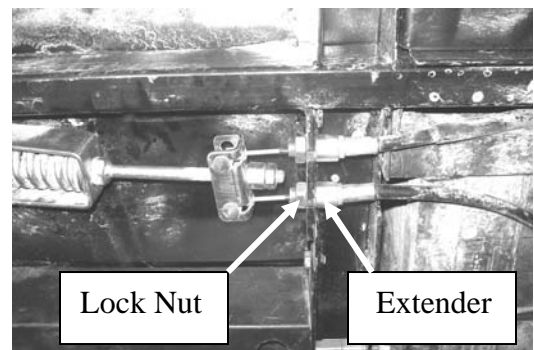

Fig 14 – Cable extenders installed
- d. Install cable extender to vehicle frame cable mount. (arrow in Fig 14) Hold extender with pliers while tightening lock nut to 8 to 10 ft-lbs.